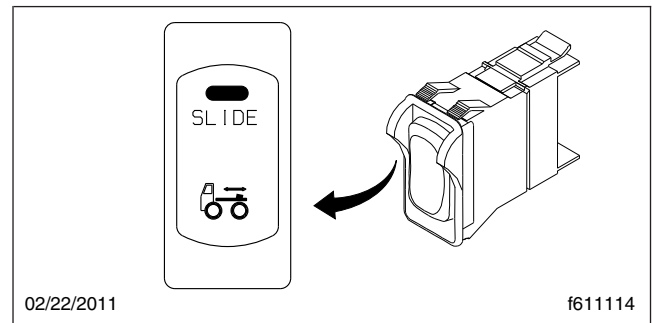
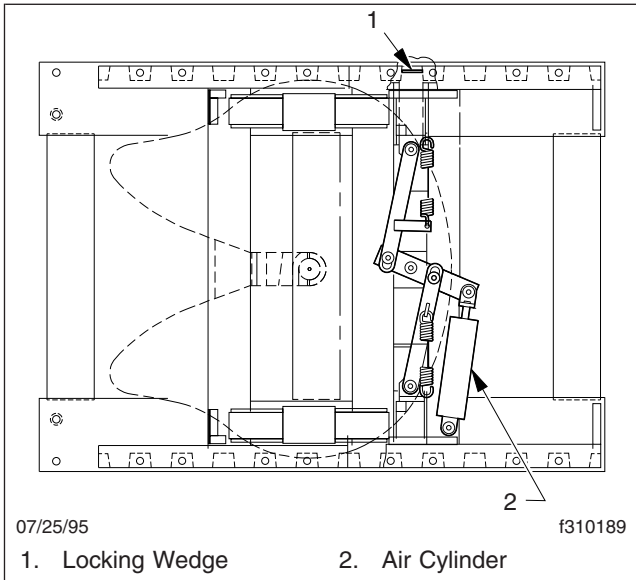
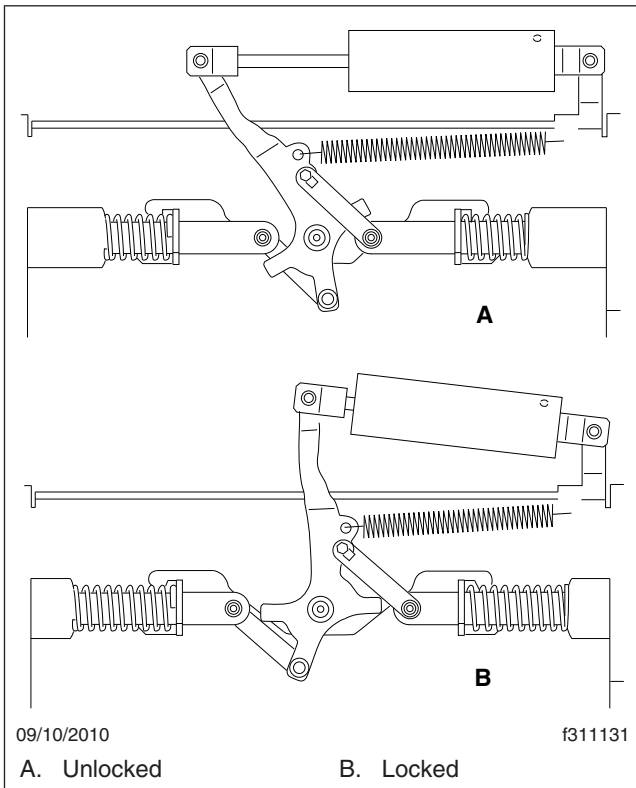

Fig. 10.14, Air-Slide Switch
Fig. 10.15, Air-Operated Sliding Fifth Wheel (Fontaine shown)
Fig. 10.16, Jost Sliding Fifth Wheel
The slide feature may be operated with an air switch mounted in the dash, that operates an air cylinder that locks and unlocks the slide. See Fig. 10.14.
- Set the air-slide switch to UNLOCK. See Fig. 10.14. Ensure the locking plungers have released. See Fig. 10.15. For Jost fifth wheels, the mechanism activates as shown in Fig. 10.16.